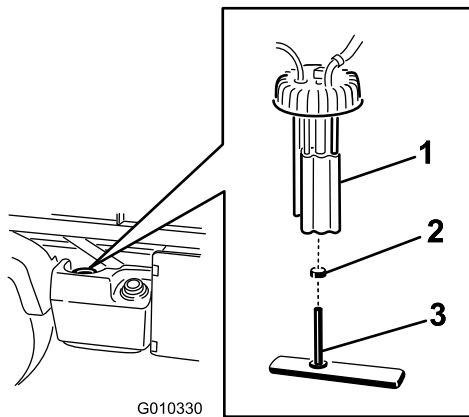

Figure 49
2. Unplug the wire harness connectors from the fuel pump (Figure 49).
3. Loosen the hose clamp and disconnect the fuel line from the fuel pump cap (Figure 49).
4. Un-thread the fuel pump cap from the top of the fuel tank (Figure 49).
5. Remove the fuel pump assembly and fuel filter from the tank (Figure 49).
6. Remove the clamp securing the fuel filter hose to the fuel pump fitting. Remove the hose from the fitting (Figure 49).